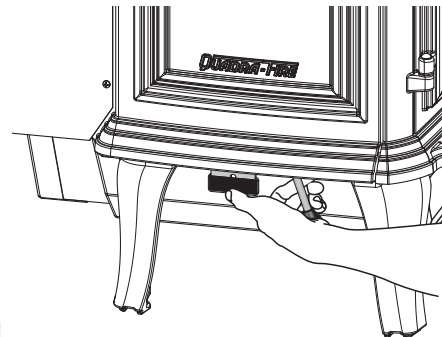

Figure 19.1
1. The appliance and ashes must be completely cooled down before using the Ash Removal System. Reach down and locate the ash removal door handle under the left side of the appliance in the center. Grasp the handle with your fingers and place your thumb on the latch release (**Figure 19.1**). Press the latch release inward. Keep the latch release pressed in and lower the handle gently. Take your thumb off the release once the handle is clear of the latch and guide the handle back until it stops.